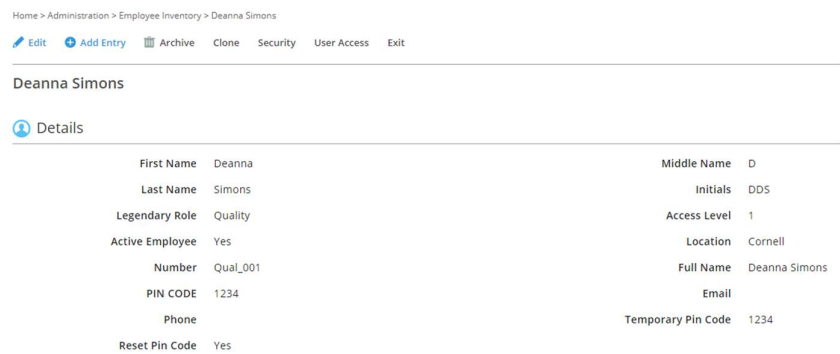

Figure 27: Example of Employee Profile (Non-Plant Admin)
- ii. If the Plant Administrator also requires a role in the approval workflow a second employee/User profile must be set up. See Example in Figure 27